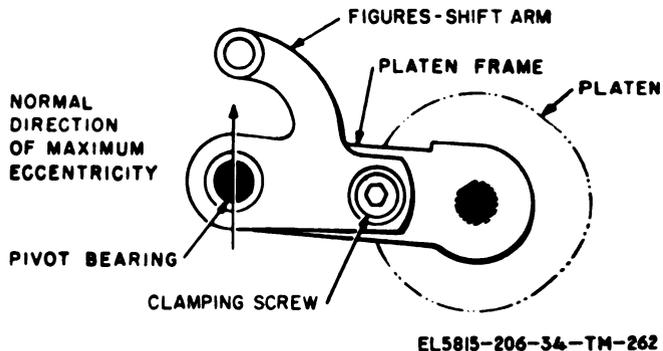

Figure 3-190. Figures-shift preliminary adjustment.
(fig. 3-190)
b. Adjustment. Loosen the clamping screw (fig. 3-190); position the figures-shift arm to meet the requirement; tighten the clamping screw; and recheck the requirement. Check the related adjustment (para 3-223).